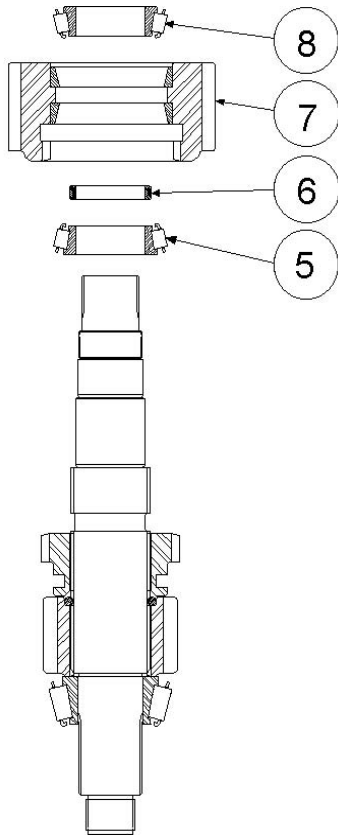
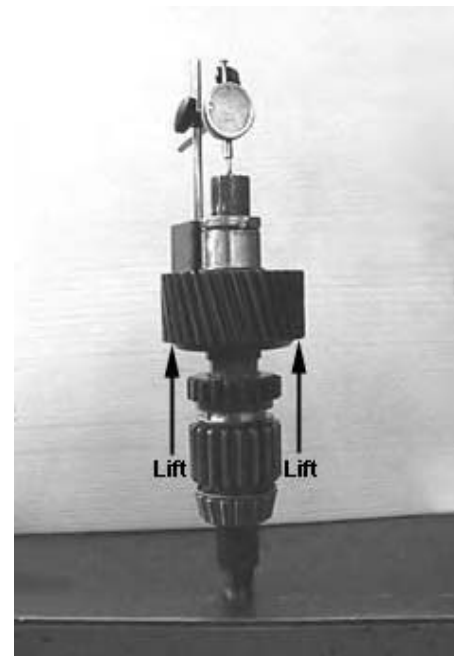

Fig. 35
Fig. 38
5. Install the remaining parts onto the shaft in the order shown in Fig. 35 & 36.
7. Check gear end-float using a dial indicator as shown below. Clearance should be .000 to .002 inches **loose**. If the end-float is not within the specified limits, (see page 8) another bearing spacer (#6 Fig 35) will need to be selected. See Fig. 38.